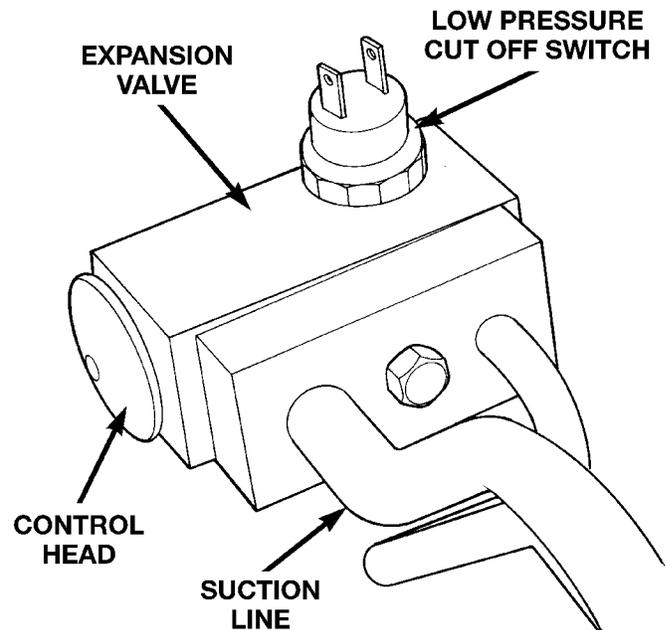

Fig. 37 Low Pressure Cut-Off Switch and Expansion Valve - Typical
- (1) Disconnect the boot like wire connector at the cut off switch.
- (2) Using a sender unit removal socket, remove the switch from the expansion valve (Fig. 37).